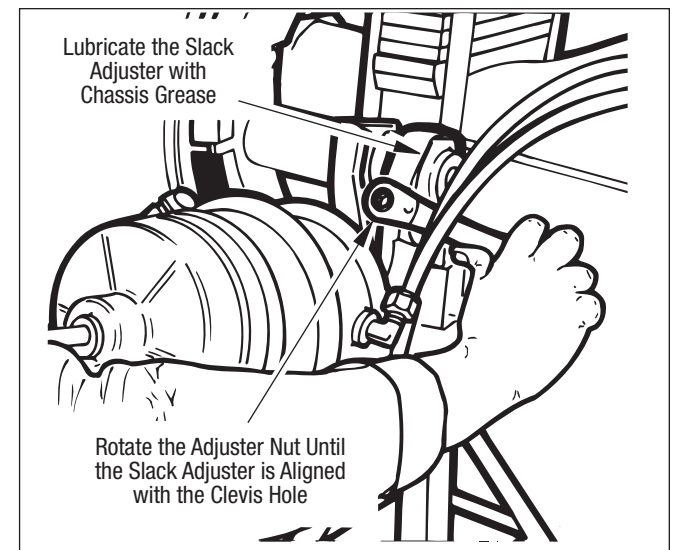

Figure 58 – Slack Adjuster Lubrication and Adjustment
10. Pressure lubricate the slack adjuster according to the manufacturer's instructions. Pressure lubricate the air chamber bracket until grease flows out of the slack adjuster end of the tube. Refer to Figure 58.
12. All chambers equipped by the OE on new trucks come with a welded clevis. Rotate the adjusting nut as required until the appropriate hole in the slack adjuster is aligned with the hole in the clevis. *Refer to Figure 58*.